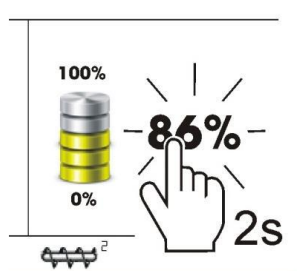

Figure 7. Setting the fuel level to 100%
- hold your finger on the fuel level value on the main screen, as shown in Figure 7